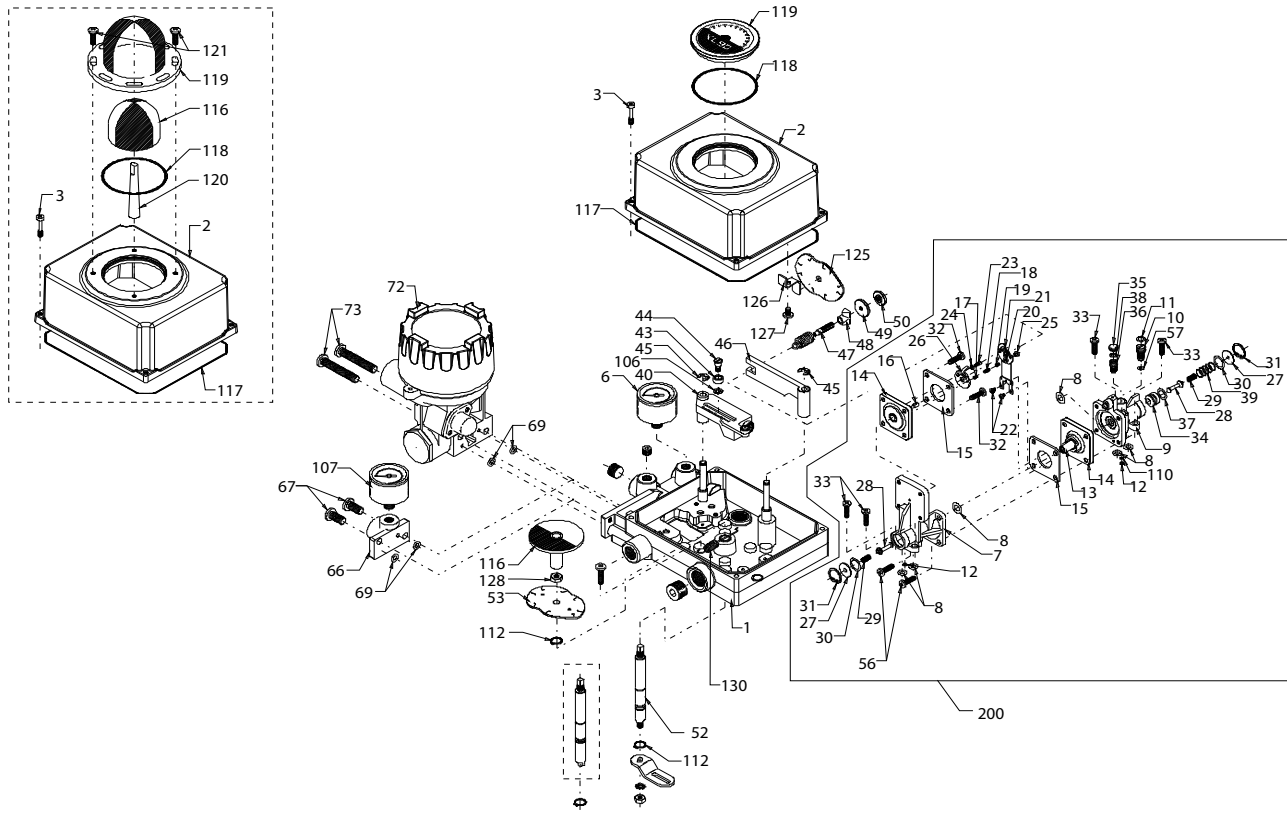

Figure 8: APEX 8000 Positioner - Exploded View
***NOTE: Numbers in parentheses correspond to the numbers in Figure 8.***
1. Remove the feedback spring (47) and rotate the span and zero arms (40, 46) out of the way.
2. Remove four screws (33) holding the pilot relay to positioner base (1). Remove relay from positioner.
3. Remove the nut (25) connecting the flapper assembly (21) to the signal capsule.
4. Remove four screws (32) holding the two halves of the pilot relay assembly together. Carefully pull the relay assembly halves apart, making sure the flapper assembly (21) slides off the flapper adjustment screw (19) without damaging the signal diaphragm assembly (16). Pull the relay diaphragm assembly (13) out of the other half of the relay body (9).
5. With the relay assembly in two sections, remove two screws (22) holding flapper assembly (21) to the relay diaphragm assembly (13). Remove the flapper.
6. Remove diaphragm retaining plate (15) from relay diaphragm assembly (13) and relay plate (14).
7. Replace relay diaphragm assembly (13) with one from the positioner repair kit. Place the relay plate (14) between the new diaphragms making sure the 1/16-inch diameter holes between the relay plate (14) and the diaphragm line up. Position diaphragm retaining plate (15) on relay diaphragm assembly with rounded inner diameter edge against diaphragm.
8. Attach flapper assembly (21) onto relay diaphragm assembly (13) using two screws (22) with a locking adhesive on the threads. The flapper assembly should extend away from the 1/16-inch diameter hole through the relay plate. Make sure lettering on flapper assembly is facing away from diaphragm.
9. With relay halves still apart, remove relay tube O-rings (8) from upper and lower bodies (9, 7) and replace them with new O-rings (found in the positioner O-ring repair kit).
10. Remove rubber cap (35) and balance adjust screw cap (36) from upper relay body (9). Remove O-ring (38) from balance adjust screw and install new O-ring.